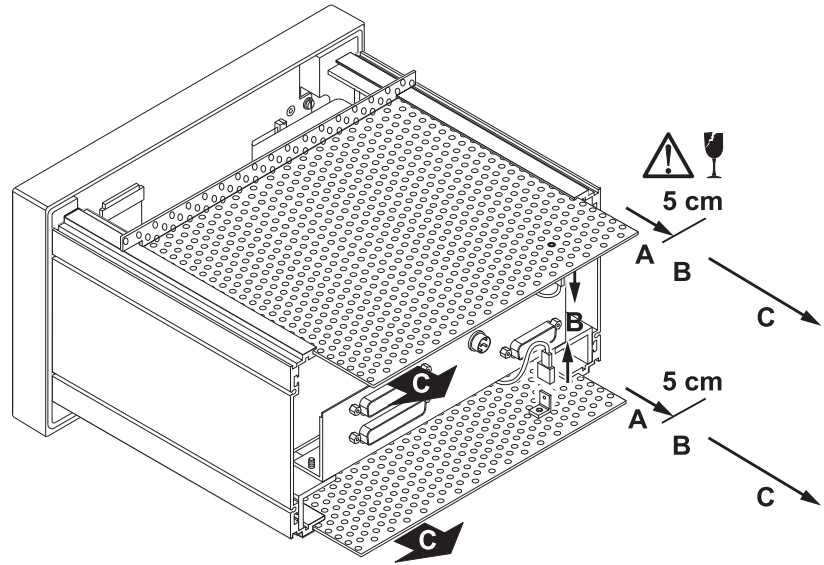

Fig. E 7-15: Loosening of the ground cables and removing the cover plates
5. Carefully move the upper and lower perforated metal cover plate out approx. 5 cm (A). Carefully remove the grounding cables (B). Avoid damage of the flat cable and the locker because of canting. Then remove the perforated metal cover plates out of the frame and store them. (Fig. E 7-15)